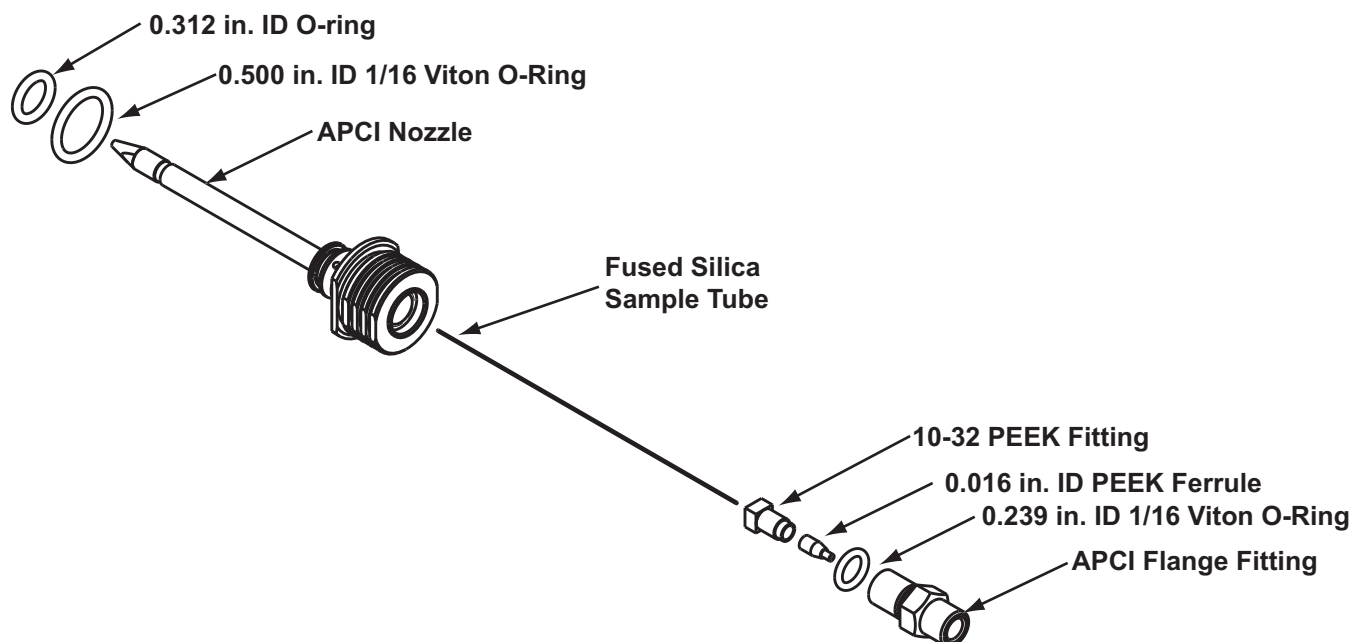

Figure 46. APCI sample tube connection
1. With a 3/8-in. open-end wrench, remove the sample tube inlet fitting (P/N 70005-20250), 0.239-in. ID O-ring (P/N 00107-04000), and sample tube from the APCI manifold (Figure 46).
2. Slide the PEEK fitting (P/N 70005-20220) and ferrule (P/N 00101-18120) onto the length of the fused-silica tubing. See Figure 46.